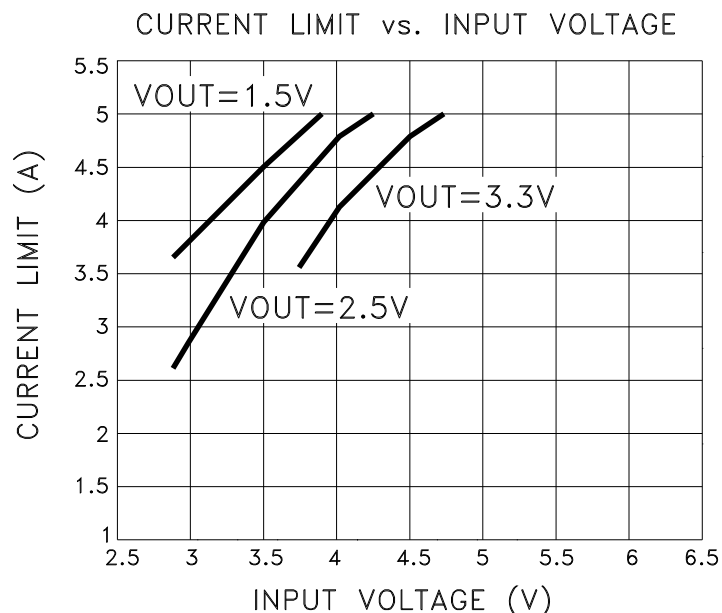

FIGURE 1
- ⑦ Output current limit is dependent upon the values of V_{IN} and V_{OUT}. See Figure 1 and typical performance curves.
- ⑧ Continuous operation at or above absolute maximum ratings may adversely effect the device performance and/or life cycle.
- ⑨ V_{IN} shall be as specified or V_{IN} Min, whichever is greater.
- ⑩ Not applicable when V_{OUT} < V_{IN} Min - dropout voltage maximum.
- ⑪ Pre and post irradiation limits, up to 100Krad TID, are identical unless otherwise specified.
- ⑫ Reference DLA SMD 5962R05220 for electrical specifications for devices purchased as such.
- ⑬ Internal solder reflow temperature is 180°C, do not exceed.
The MSK5921RH current limit function is directly affected by the input and output voltages. Figure 1 illustrates the relationship between VIN and ICL for various output voltages. It is very important for the user to consult the SOA curve when using input voltages which result in current limit conditions beyond 4.5 Amps. When using input voltages which result in current limit above 4.5 Amps, the user must maintain output current within the SOA curve to avoid damage to the device. Note that 5 Amp maximum is due to current carrying capability of the internal wirebonds.